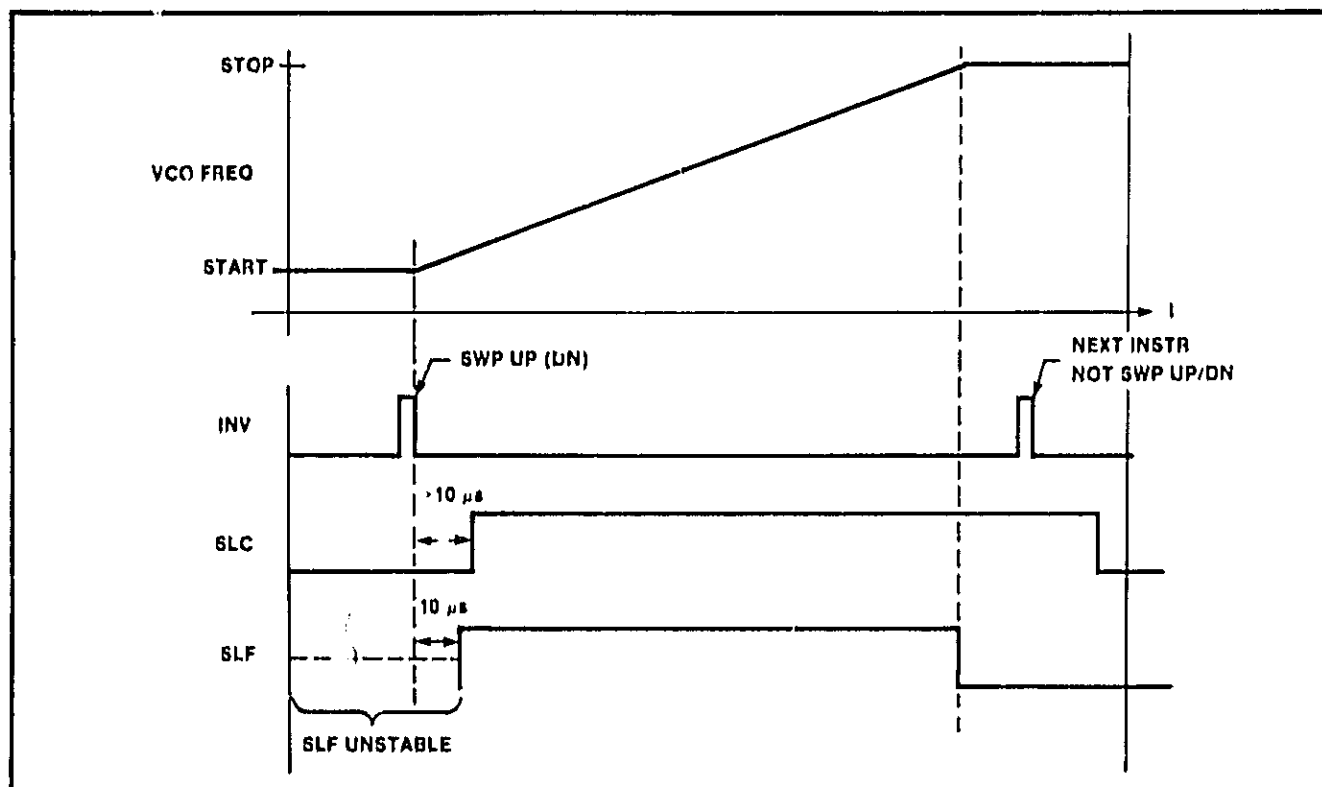

Figure 8-23. A10U8 Control Signals
- a. Instruction Valid (INV). INV is from A5 Decoder circuit and is pulsed high when a valid instruction is on the data bus. Data must be valid at the positive edge of INV and is latched in on the negative edge. Execution begins when INV goes low (see Figure 8-23).
- b. External Clock (EC). EC is from A5 Decoder circuit and is pulsed high when valid data is on the data bus. Data is shifted in on the positive edge. EC must remain Low until it is used to shift in data.